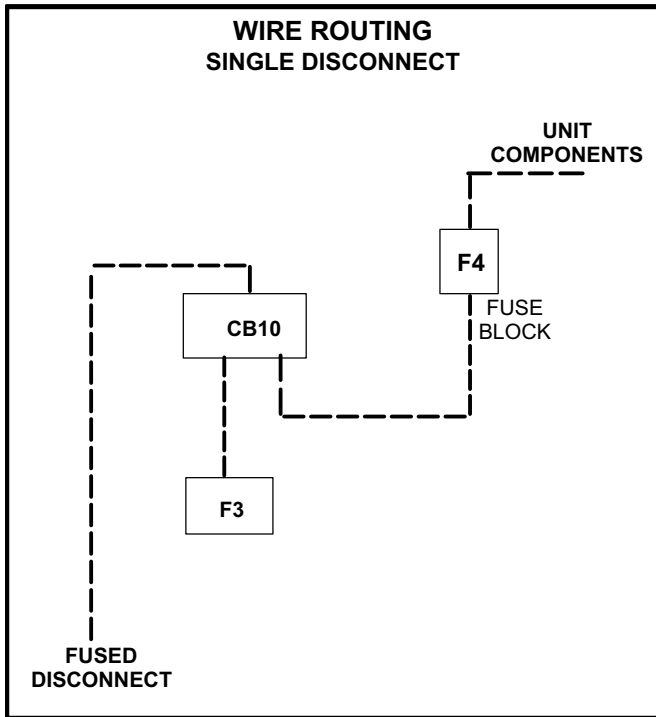
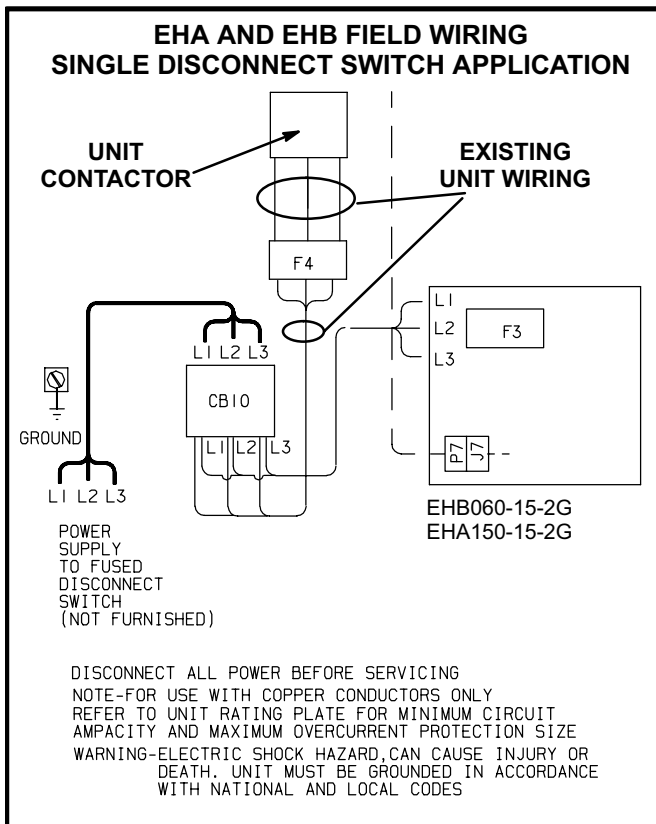

FIGURE 2
FIGURE 3
- 1- Review heater installed nameplate for MCA values and enlarge power entry knockouts as needed. Route power wires as shown in figure 2. Make field wiring connections as shown in figure 3. For low voltage wiring connections, refer to unit installation instruction.